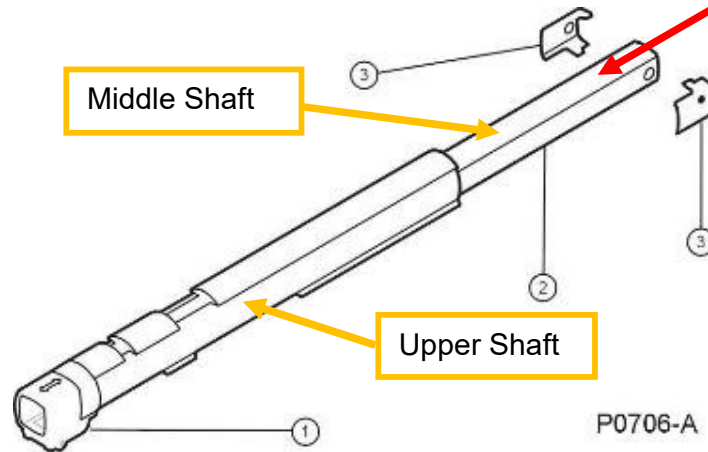

Figure 66: Middle Shaft.
- Using Figure 66 as a guide, attach the two collars (Part 3) to the rear of the middle shaft.